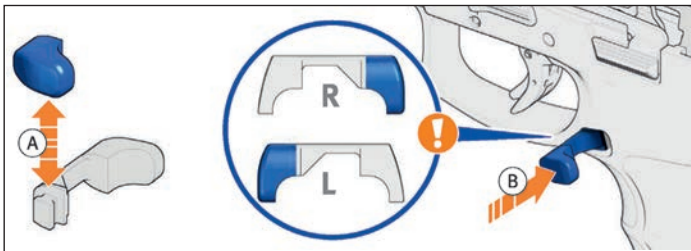

Figure 47 – Convert push button
4. With the latching clip held forward, place the disassembly tool in the rectangular cutout (detent) in the magazine catch and push upward slightly (Figure 47). This action releases the push button and allows it to be removed and reversed.